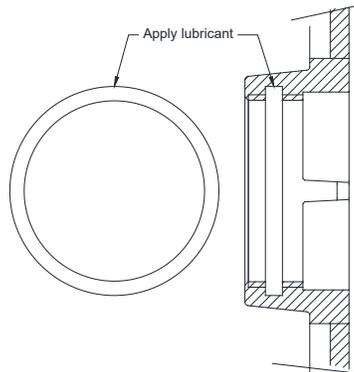

Figure 6
7. Using the o-ring seal and lubricant bag, ensure the o-ring and coupling threads are well lubricated. Insert the o-ring, ensuring it does not twist. See Figure 6.